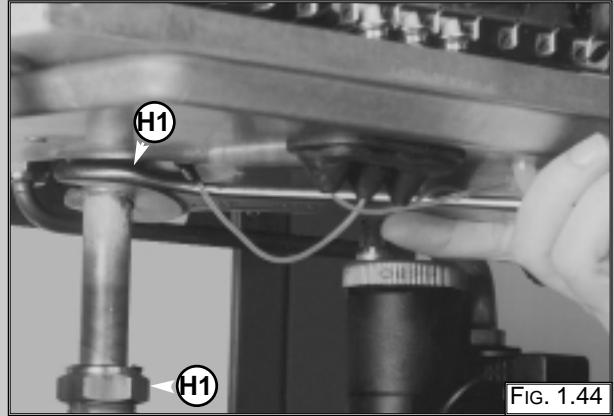

FIG. 1.44
1. Release nuts "H1" and remove the gas pipe (FIG. 1.44);